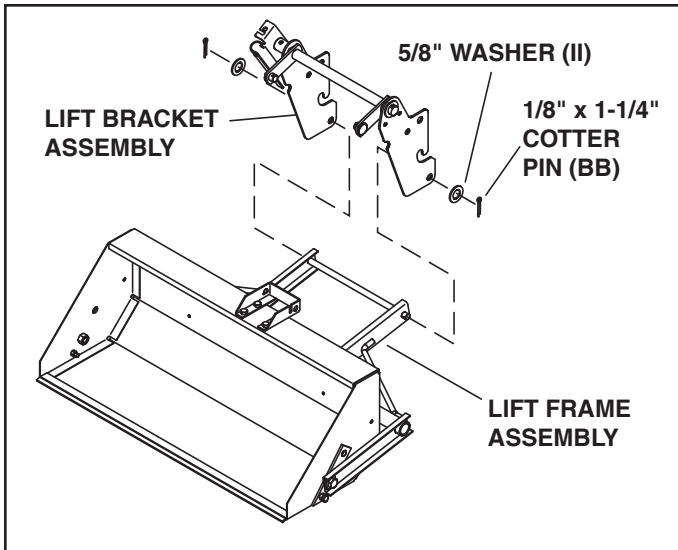

FIGURE 3
STEP 4: INSTALL LIFT BRACKET ASSEMBLY (SEE FIGURE 3)
- Assemble the lift bracket assembly to the lift frame assembly using two 5/8" washers (II) and 1/8" x 1-1/4" cotter pins (BB).